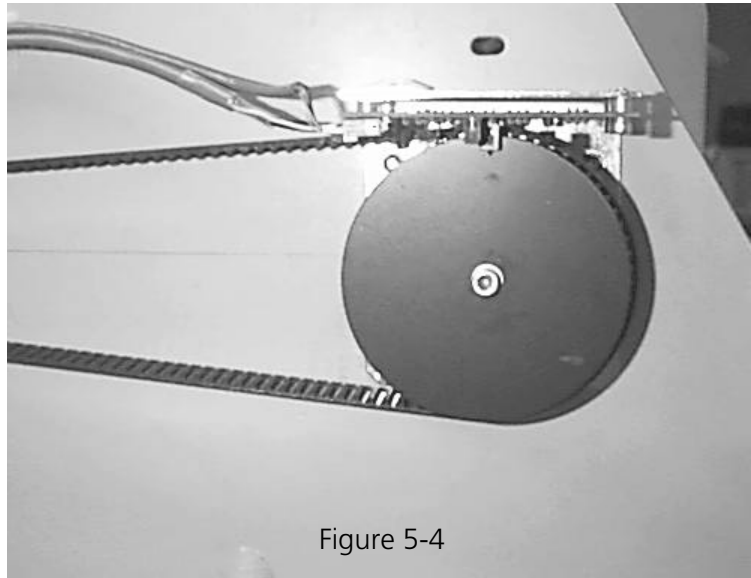

Figure 5-4
14. Loosen the screw securing the Z index disc (see Figure 5-4) and rotate the disc until the slot in the disc is in the photo sensor of the head up PCB. The monitor displays 201.0 +/- 0.4 degrees.